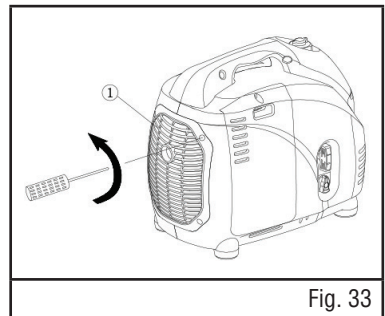

Fig. 33
1. Remove the cover. See figure 33